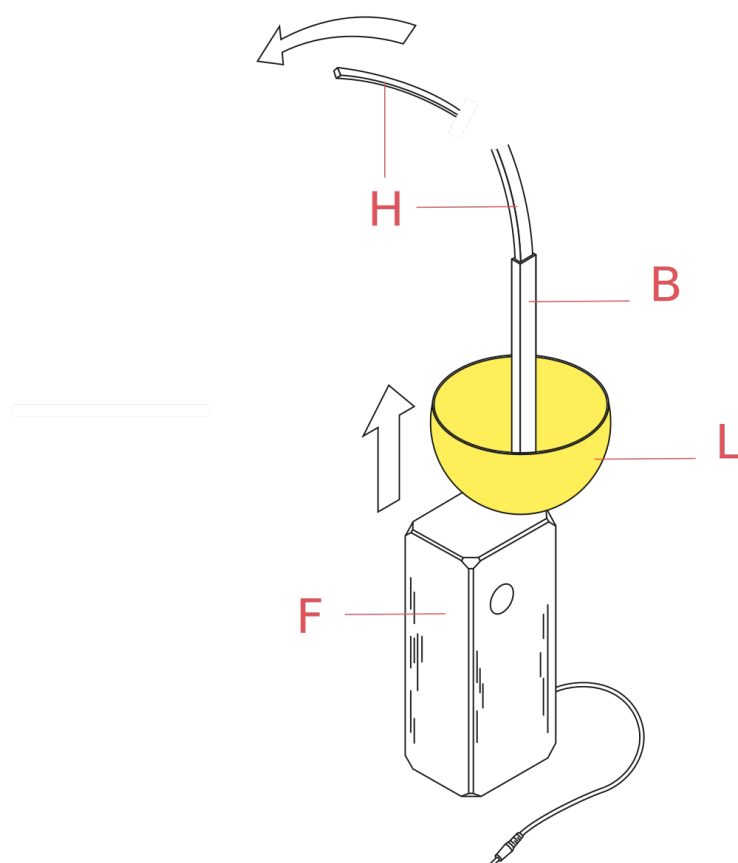

Fig.5
Insert the cable with the connector (O) underneath the pins (I) and slide it through the channel. (Fig.5)
Collocate the reflector (L) on the grid (M) by sliding it through the stem (B) and through the channels of the appliance. (Fig.5)